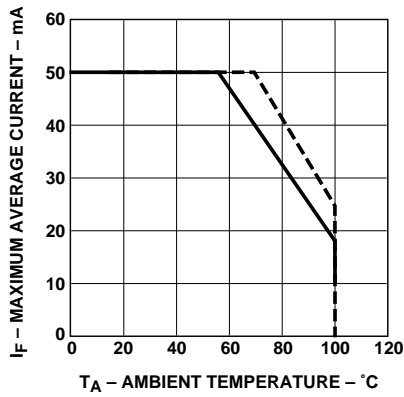

Figure 1. Maximum forward current vs. ambient temperature. Derating based on  $T_{JMAX} = 130^\circ\text{C}$ .
- Derate linearly as shown in Figure 1.